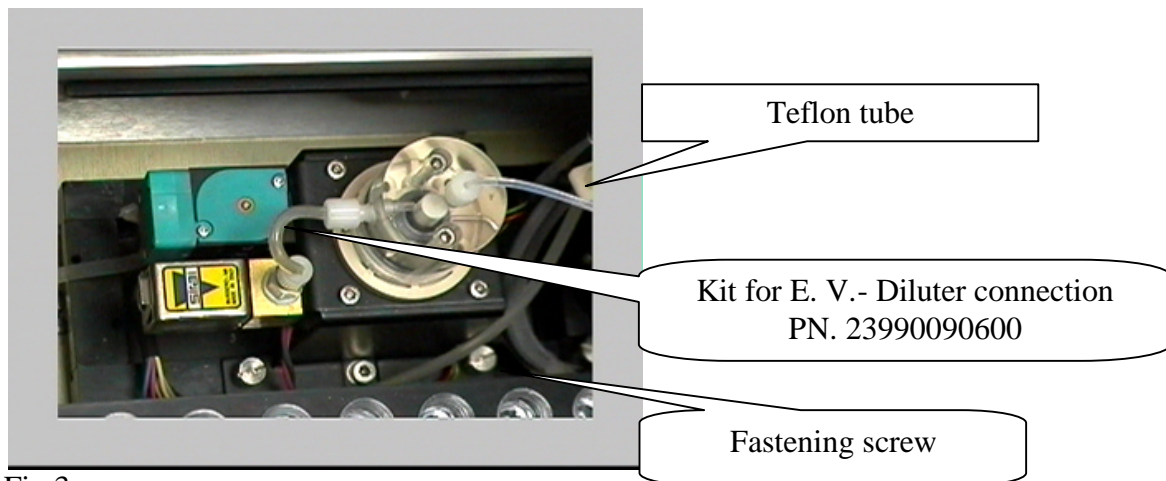

Fig.3
6. Remove the teflon tube on the diluter head by unscrewing the fastening washer (Fig.3) pay particular attention to leakage of liquid.